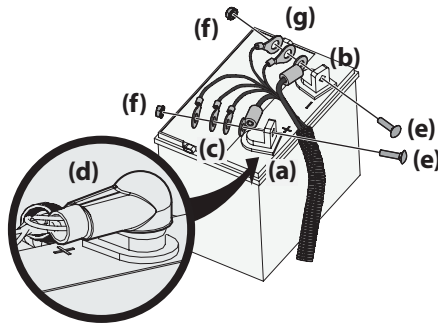

Figure 2-20
Note: The positive battery terminal is marked POS. (+) (a). The negative battery terminal is marked NEG. (-) (b). See Figure 2-20.
Note: If the positive cable grouping (c) is already attached, skip ahead to Step 6. See Figure 2-20.
3. Slide the red boot (d), if present, back along the positive cable grouping. See Figure 2-20.
4. Attach the positive cable grouping (c), positive cable for the electric deck lift (if equipped) and positive cable for the 12V outlet (if equipped) to the positive battery terminal (a) with the bolt (e) and hex nut (f). See Figure 2-20.
6. Attach the negative cable grouping (g), negative cable for the electric deck lift (if equipped) and negative cable for the 12V outlet (if equipped) to the negative battery terminal (b) with the bolt (e) and hex nut (f). See Figure 2-20.